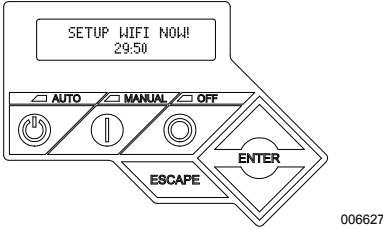

Figure 3-7. Wi-Fi Setup Screen
1. See Figure 3-7. The controller display will change to **SETUP WIFI NOW!** along with a timer. You have 30 minutes to connect the Wi-Fi.